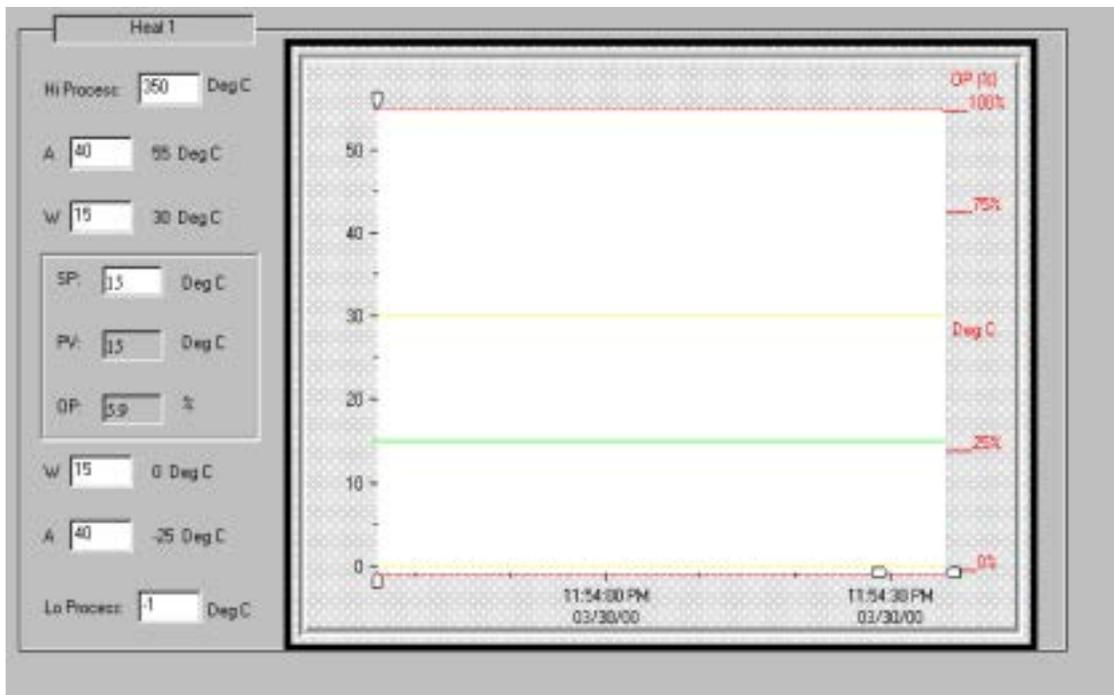

Figure 25
- c. Channel Trend Plot displays the individually configurable graph plots for each channel. The history data in the graph is recoverable from the daily journal database file. Click the Channel Trend Plot icon on the main toolbar or from the menu bar click Window then Channel Trend Plot. **See Figure 25.**